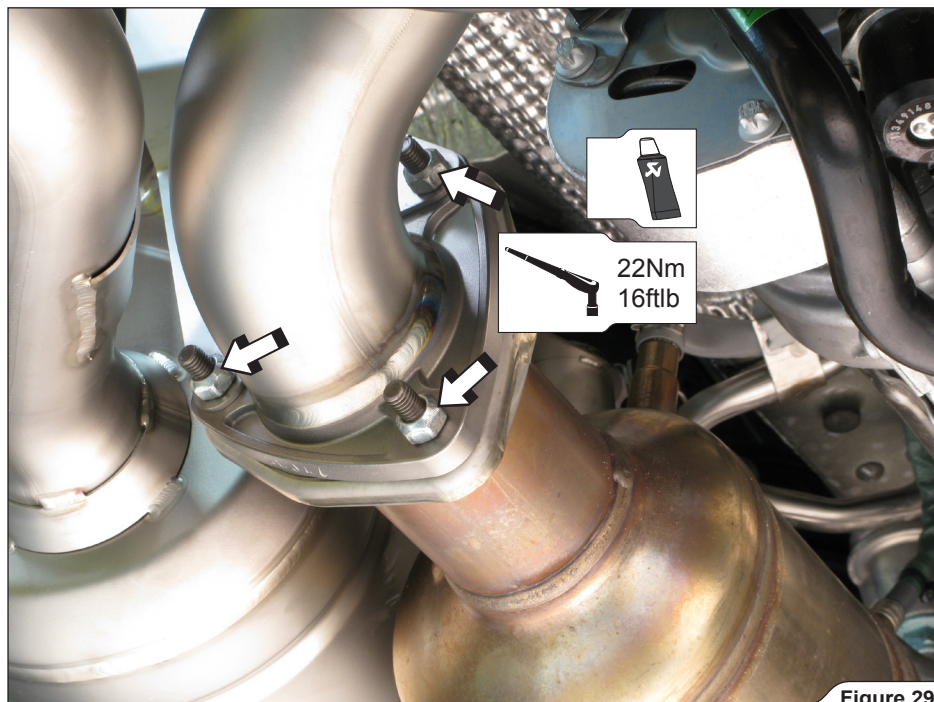

Figure 29
10. Tighten the central muffler's flanges and side mufflers brackets on both sides of the vehicle (Figure 29, 30).